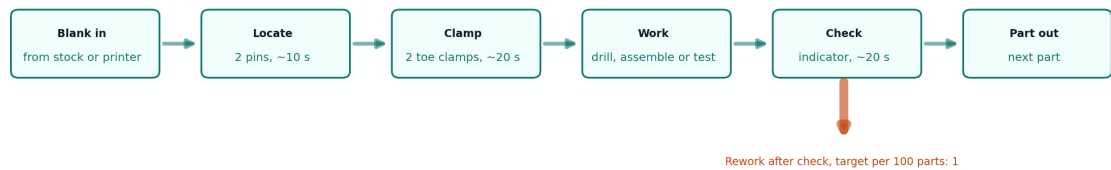

Figure 3. Material flow for one part at a fixture. Times and the rework rate are estimates or targets; the fixture change time is from GBN-CAL-001.
3. **Work and check in the same setup.** The instrument post bolts to any grid hole and carries a dial indicator on an arm, so a part can be checked before it is unclamped (Figure 3).